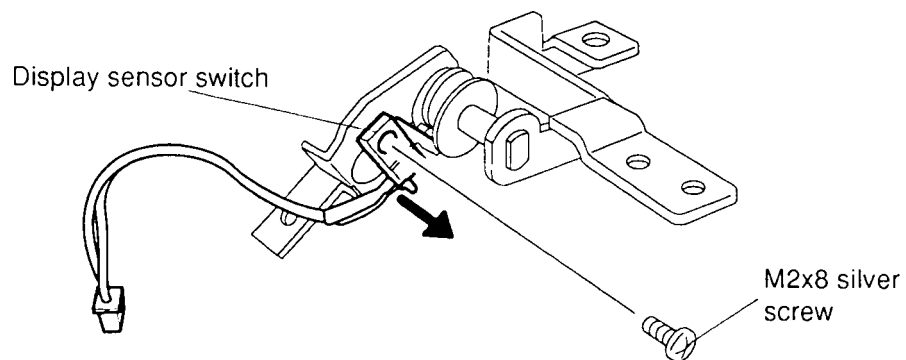

Figure 4-50 Removing the Display Sensor Switch
7. To remove the **display sensor switch**, remove the **one M2x8 silver screw** securing the cable to the hinge (Figure 4-50).
1. To install the **display sensor switch**, secure the cable with the **one M2x8 silver screw** (Figure 4-50).